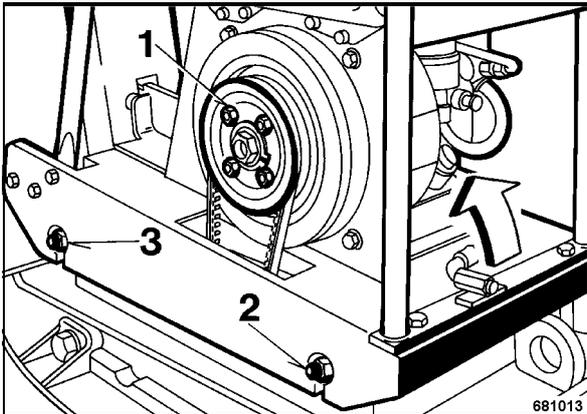

Fig. 66
- Slacken the rear fastening screws 3 (Fig. 66) on both sides for a few turns.